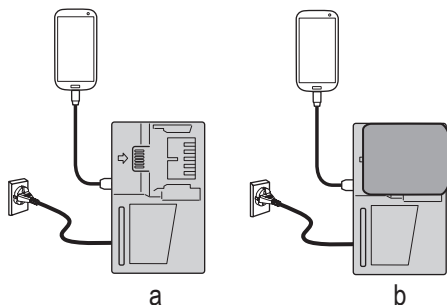

Fig. 24
- Charging a USB device from a electrical outlet. (Fig. 24-a)
- Charging a USB device and battery from an electrical outlet. (Fig. 24-b)